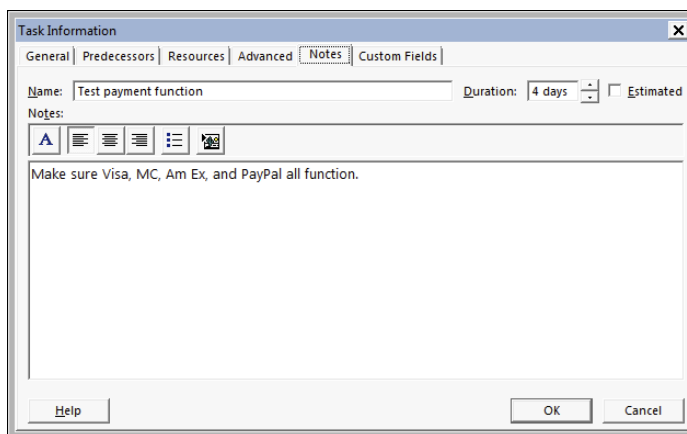

Figure 3-7:
2. **Click to select the Notes tab, as shown in Figure 3-7.**